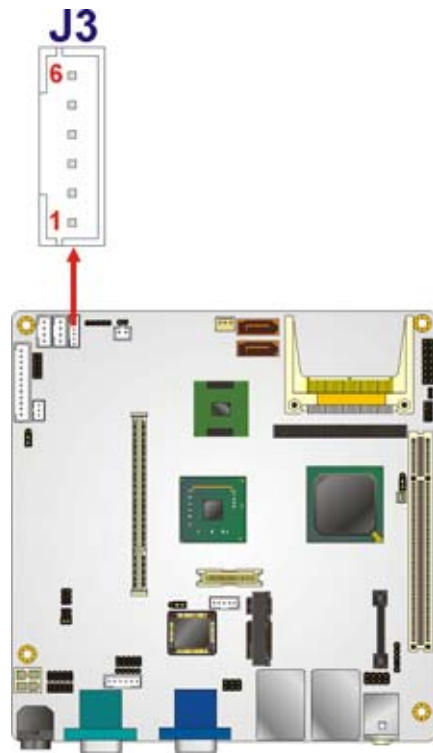

Figure 4-11: LED Connector Location
- CN Location:** See **Figure 4-11**